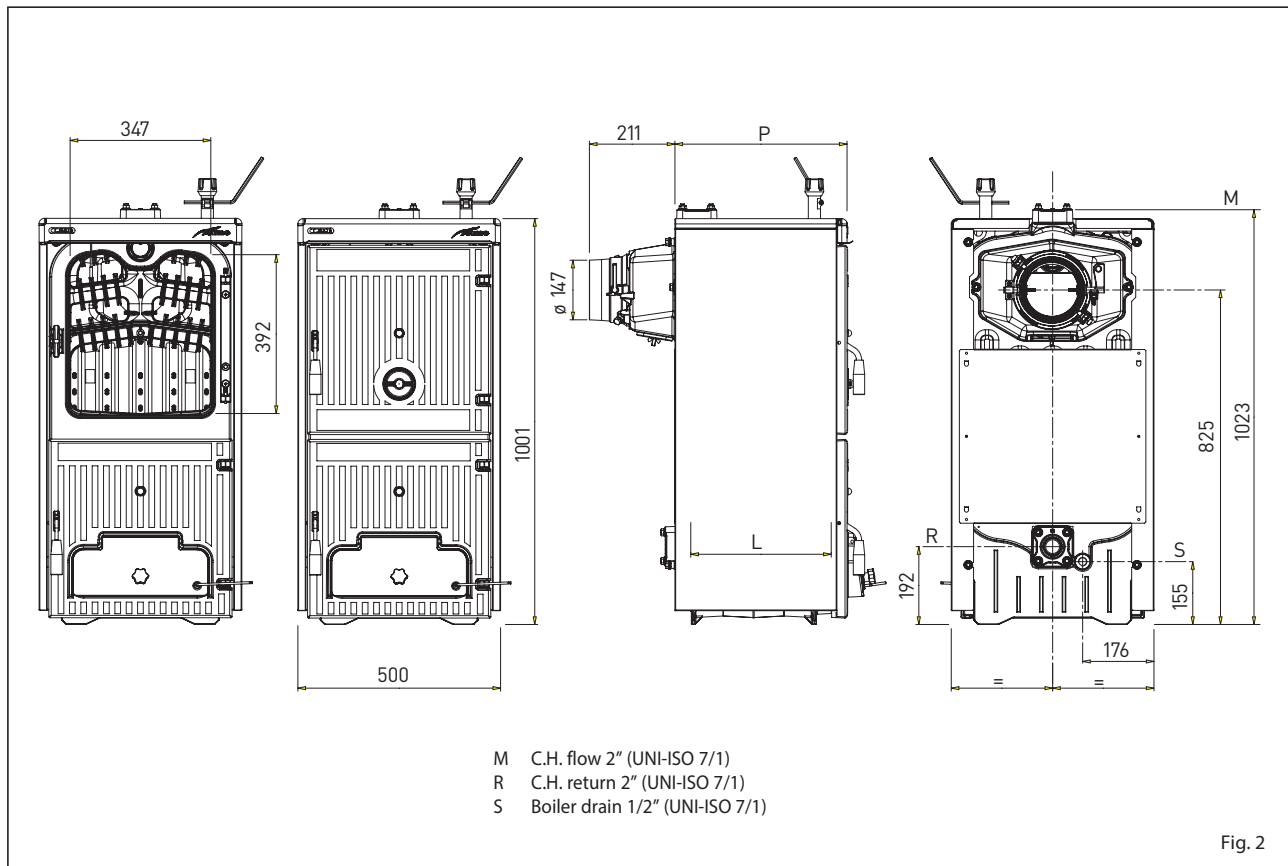

Fig. 2
3.2 OVERALL DIMENSIONS (fig. 2)